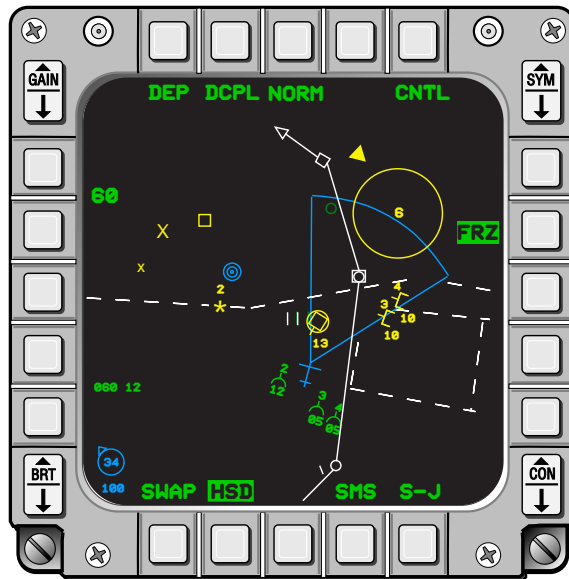

Figure 1-22 HSD Freeze Feature
**Freeze Feature.** The Freeze (FRZ) feature can be initiated by depressing OSB 7 and highlighting the FRZ mnemonic. With FRZ selected, all ground stabilized data/symbology is frozen on the display and the ownship symbol moves about the display (Figure 1-22). The top of the HSD remains oriented to the aircraft heading when FRZ was selected, range rings are removed if previously selected, and HSD range scale cannot be changed (INC/DEC arrows are removed). Expand, centered/depressed format, and couple/decouple modes cannot be changed in FRZ mode but remain as selected prior to entering freeze. Sensor related symbology such as datalink, AIFF, and FCR will continue to be updated and displayed relative to current ownship position.